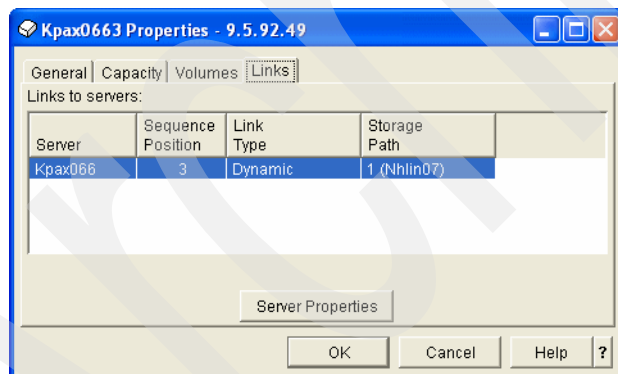

Figure 9-65 Determining the current target HBA (storage path)
- c. Select the **Links** tab and you see a window similar to the one shown in Figure 9-65. In this example, the virtual disk drive KPAX0663 is linked to network server description KPAX066 using storage path NHLIN07.